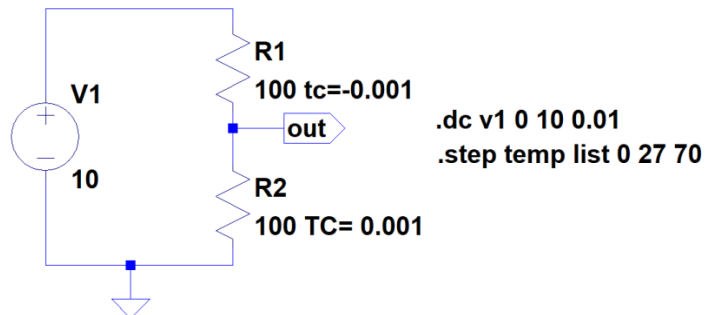

Fig. 6. Temperature influence study.
1. Draw the divider circuit according to Figure 6